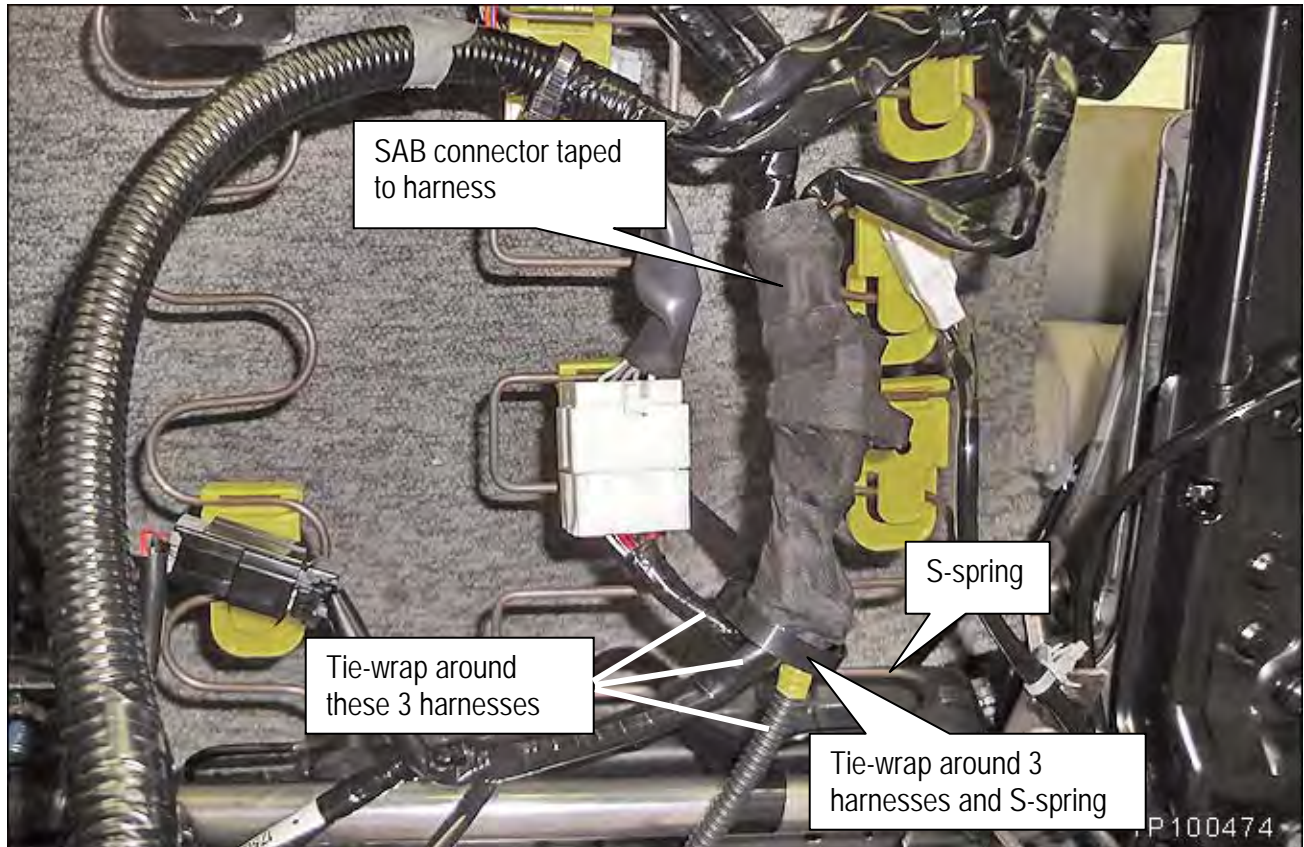

Figure 5c
7. Completely tape the SAB connector to the seat harness as shown in Figure 5c.
8. Attach tie-wrap (P/N 24216 – S5800) around harnesses and S-spring as shown in Figure 5c.